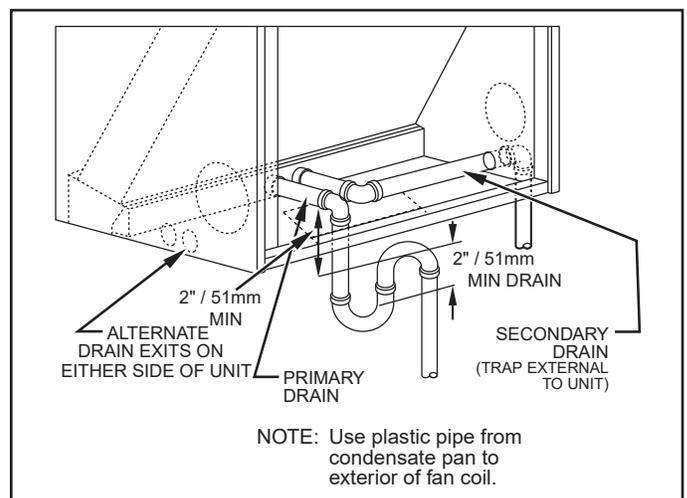

Figure 3. Condensate Drain
5. Install a 3" trap in the main (primary) drain lines as close to the unit as practical (see Figure 3). Make sure the top of the trap is below the connection to the drain pan to allow complete drainage of the pan. **NOTE** - Horizontal runs must have an anti-siphon air vent (standpipe) installed ahead of the horizontal run. An extremely long horizontal run may require an oversized drain line to eliminate air traps. **NOTE** - Do not operate air handler without a trap in the main (primary) drain. The condensate drain is on the negative pressure side of the blower; therefore, air being pulled through the condensate line will not allow positive drainage without a proper trap.
7. Optional extrusions are provided on the bottom panel to secure drain lines. See Figure 3.